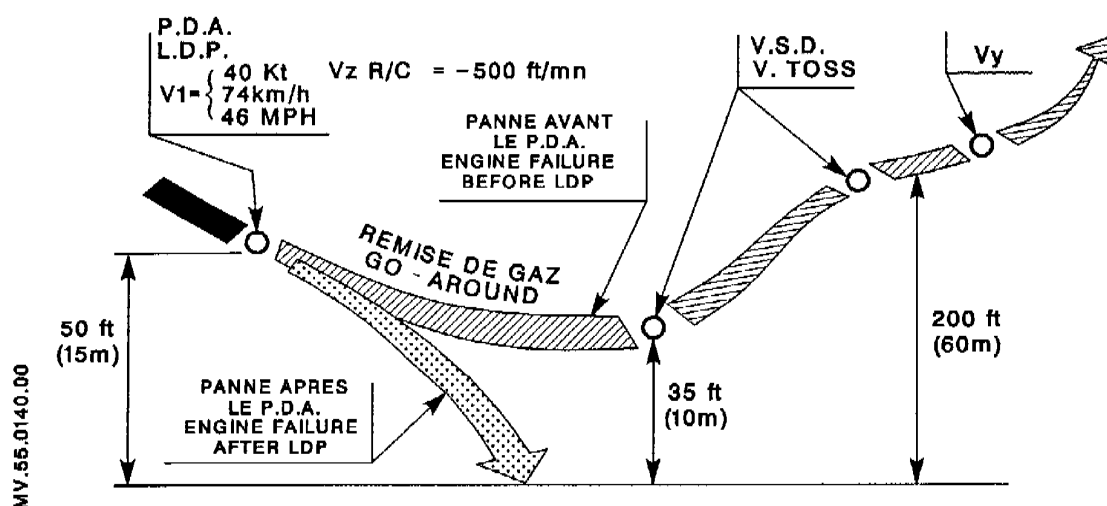

Figure 4
3.2.2 Emergency procedures in the event of an engine failure on landing (figure 4)